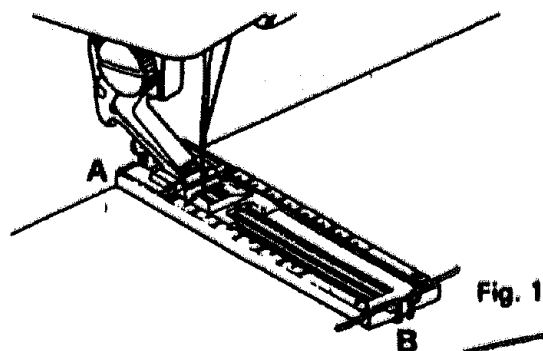

Fig. 1
Hook filler cord (crotchet thread or buttonhole twist) to the spur (A), pull both ends of cord forward under foot and tie to the spur (B). Sew buttonhole in such a way that zigzag stitches cover the cord. (Fig. 1)